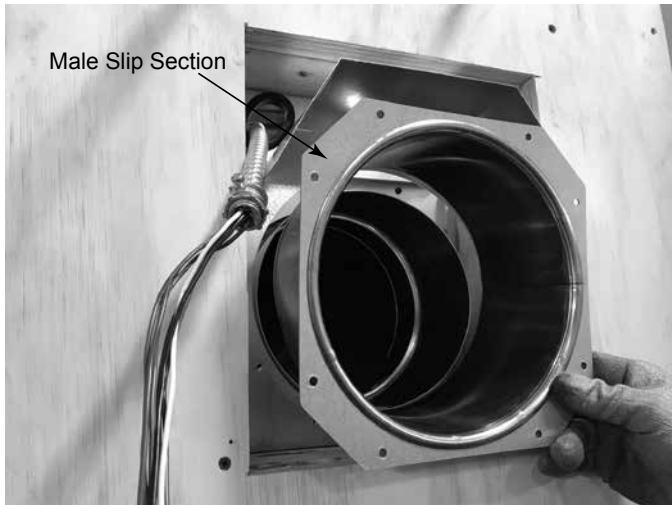

Figure 7.13
- Insert the male slip section into the female slip section installed in step 2. See Figure 7.13.